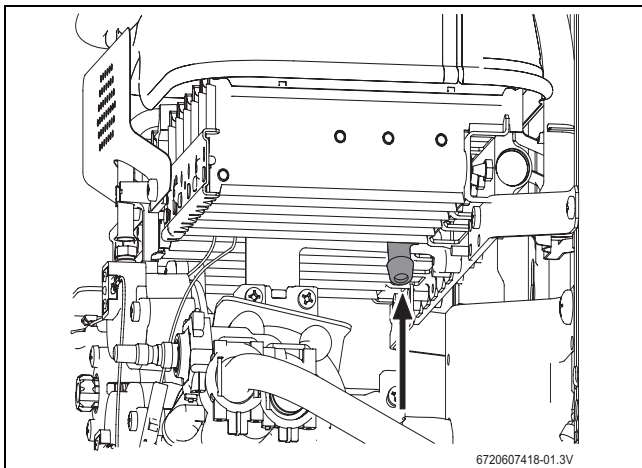

Fig. 16 Pressure measurement point
- ▶ loosen the burner test point captive screw (Fig. 16).